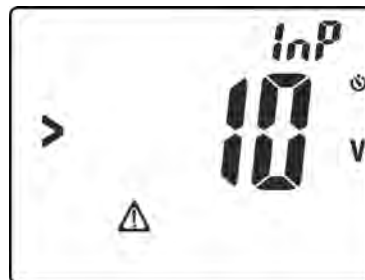

Fig. 27: Presence of voltage on the input terminals
8. Press key **GO/HOLD** to activate the test. The screen in Fig. 27 may appear on the display to signal the presence of a voltage $>10V$ found on the input terminals, preventing the test to be carried out.